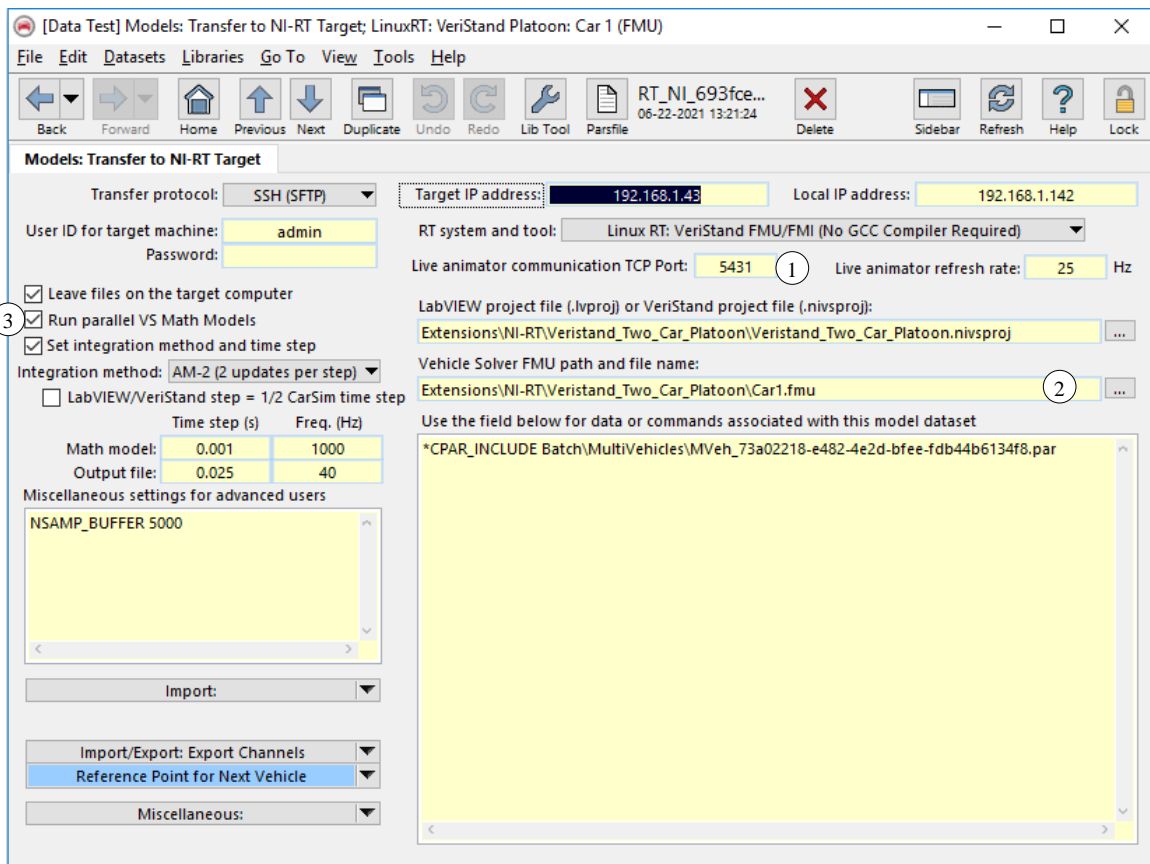

Figure 41. Model Dataset Setup for Parallel VS Math Models.
On the Run Control screen, click on the model blue link to open the model dataset (Figure 41). For each vehicle model, specify a unique **TCP Port** ① and **FMU file** ②. The FMU files should all be in the VeriStand project directory. In each model dataset, toggle on the **Run parallel VS Math Models** option ③.